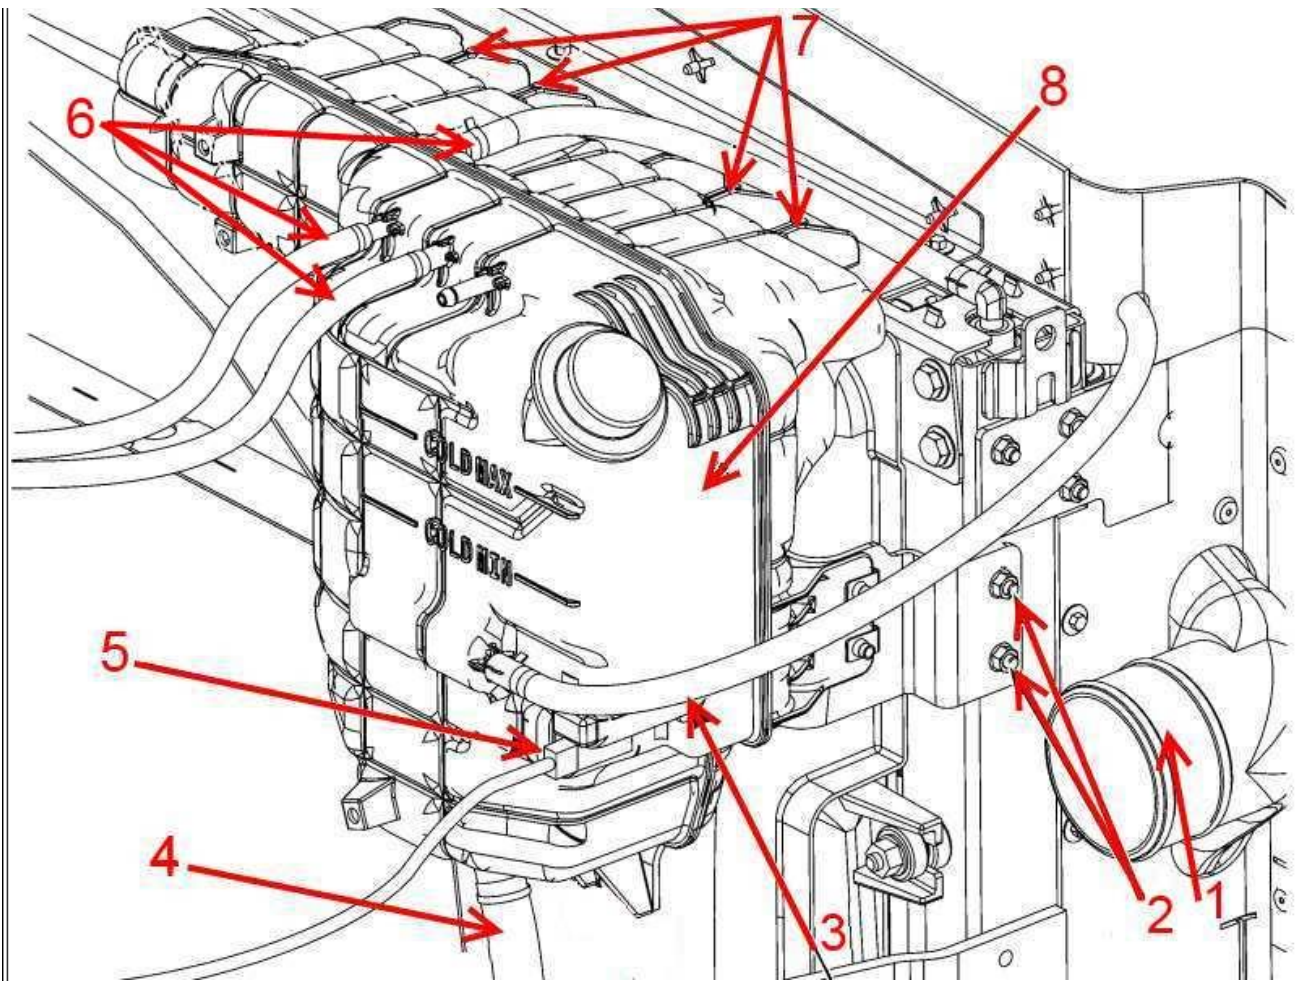

Figure 28: Deaeration Tank Assembly
26. Attach the deaeration tank to the radiator. Install the four nuts and washers to the top of the radiator (**Figure 28**, Item 7) and torque to 14 lb-ft (19 N-m).
27. Install the nuts securing the side bracket to the radiator (**Figure 28**, Item 2). Torque to 14 lb-ft (19 N-m).
28. Attach the wire harness to the coolant level sensor (**Figure 28**, Item 5).
29. Attach the coolant return line to the bottom of the deaeration tank (**Figure 28**, Item 4)
30. Attach the deaeration lines (**Figure 28**, Items 3 & 6).
31. Install the HP CAC (**Figure 28**, Item 1) and torque the clamp to 6 lb-ft (8 N-m).